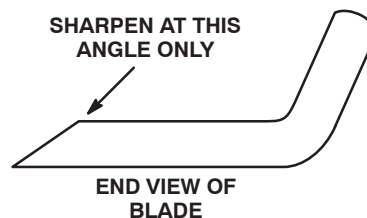

Figure 35
3. Examine the cutting edges of all of the blades. Sharpen the cutting edges if they are dull or nicked. Sharpen only the top of the cutting edge and maintain the original cutting angle to make sure of sharpness (Fig. 35). The blade will remain balanced if the same amount of metal is removed from both cutting edges.